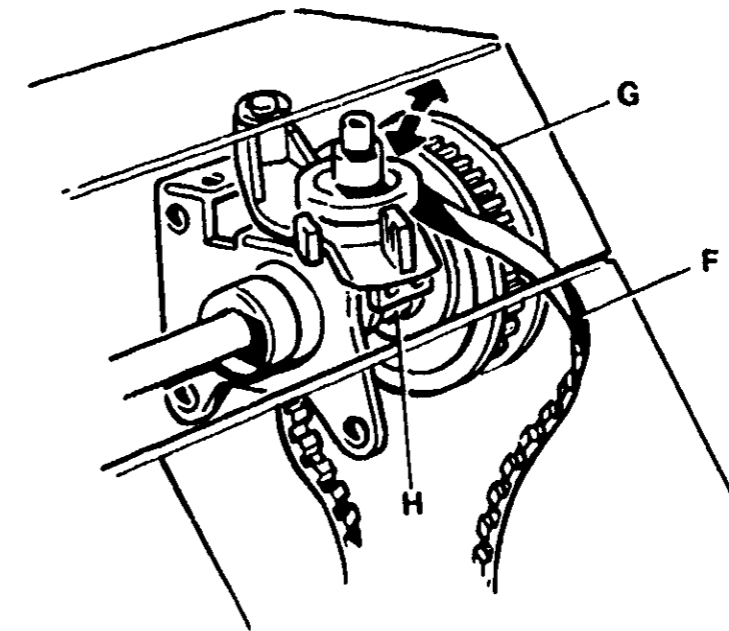

FIGURE 66
Slip belt (F) (Figure 66) between upper shaft toothed wheel (G) and bobbin winder and remove it.
Place belt (F) over upper shaft (G) toothed wheel. Slip belt between wheel and bobbin winder and make sure belt is positioned around toothed wheel (H) of upper shaft (Figure 66).